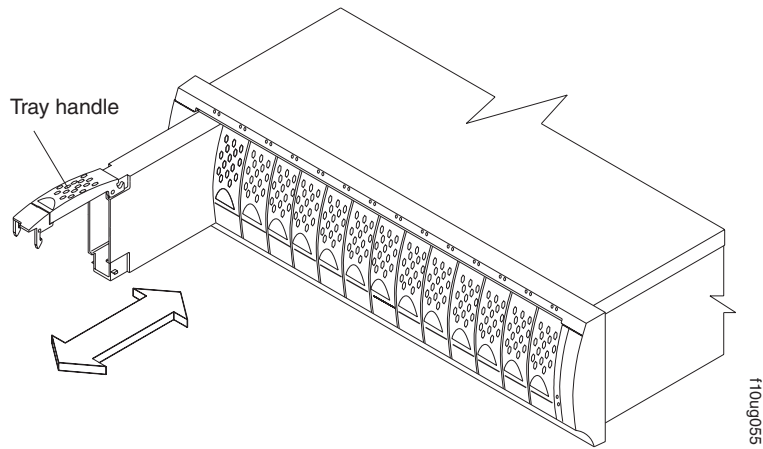

Figure 14. Removing a drive CRU
3. Pull the tray handle out so that it is in the open position to release the drive CRU. Pull the drive out of the bay, as shown in Figure 14 on page 24.